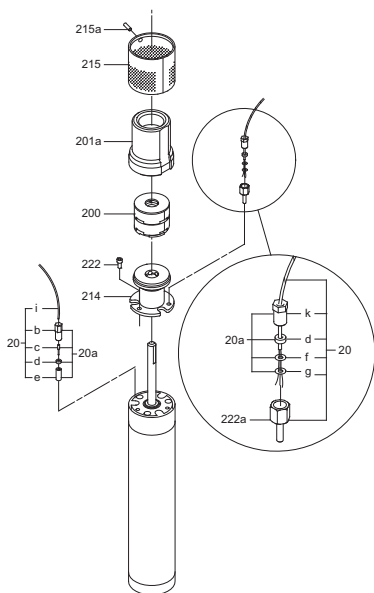

Fig. 1
Slacken and remove the screw, pos. 215a, together with the strainer, pos. 215. See fig. 1. Screw the pump housing, pos. 201a, (right-hand thread) off the suction interconnector, pos. 214. Pull the pump housing and the impeller assembly, pos. 200, off the motor shaft.
Pull positions 20b, 20d and 20e on the three leads (phases) of the motor cable. On the earth lead (yellow/green), the order is pos. 20k, 20d and 20f. See fig. 1.
Bend the stripped end of the earth lead. See fig. 1.